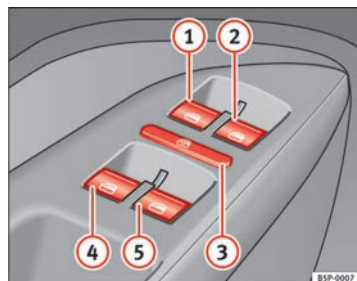

Fig. 67 Detail of the driver door: controls for the front and rear windows
The buttons → fig. 67 ① and ② have two levels for opening the window and two for closing it. This makes it easier to open and close windows to the desired position.